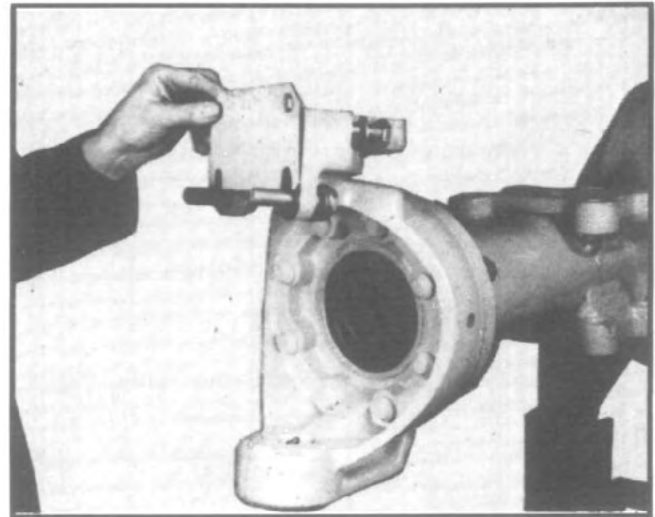

Fig. 11
4. Remove or install shims as necessary to achieve the desired camber. (See figs. 11 and 12.)